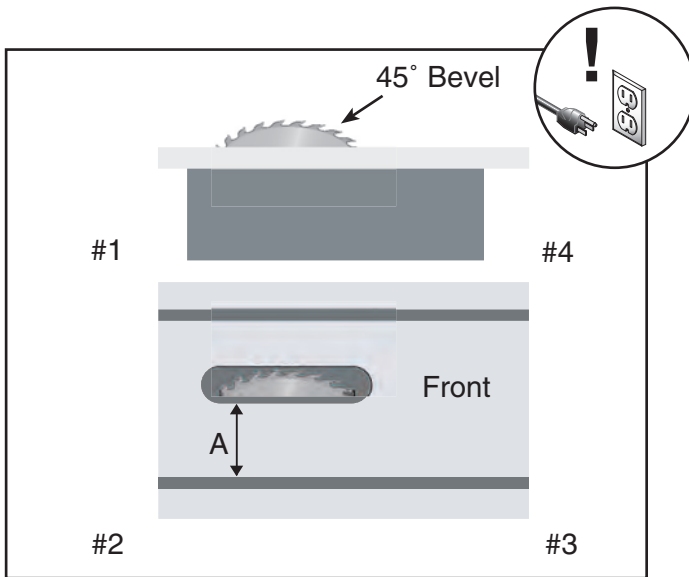

Figure 62. 45° blade parallelism measurement.
2. Using **Figures 62 & 63**, shim the trunnion assembly according to the difference measured when the blade was in the 45° position.